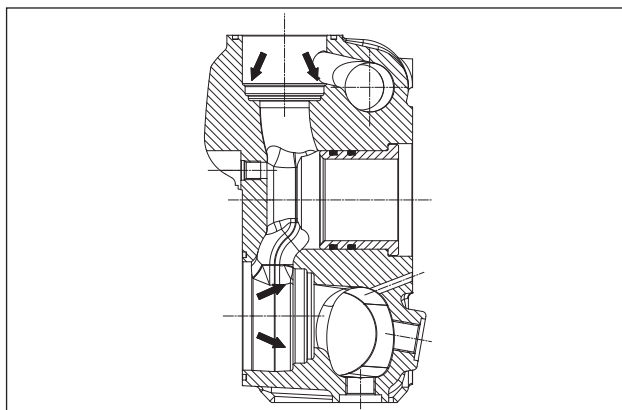

Fig. 149
Before repositioning the valve units, thoroughly clean and dry the relative housings on the head indicated by the arrows (pos. ①, Fig. 149).